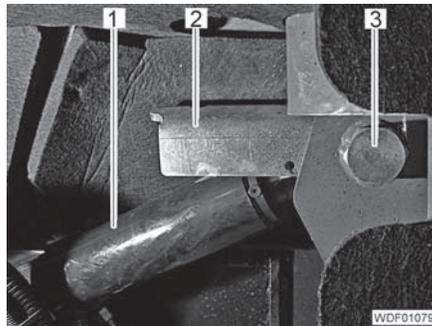

Fig. 346 Hydraulic cylinder attachment
- Position the cab securing device (Fig. 346,2) and hydraulic cylinder (Fig. 346,1).
- Screw in and tighten the screw (Fig. 346,3).